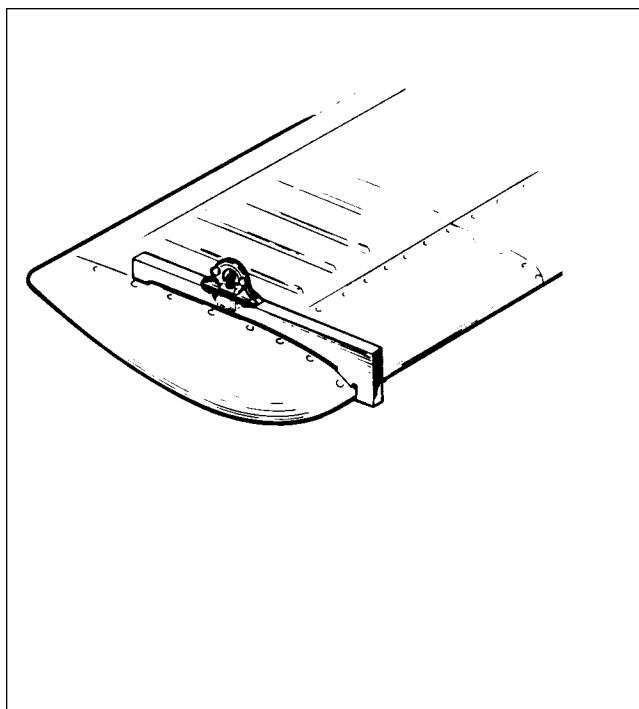

Figure 5-5. Stabilator Rigging Tool
1. Check the stabilator travel by placing a rigging tool on the upper surface of the stabilator as shown in Figure 5-5 (This tool may be fabricated from dimensions given in Figure 5-20.)